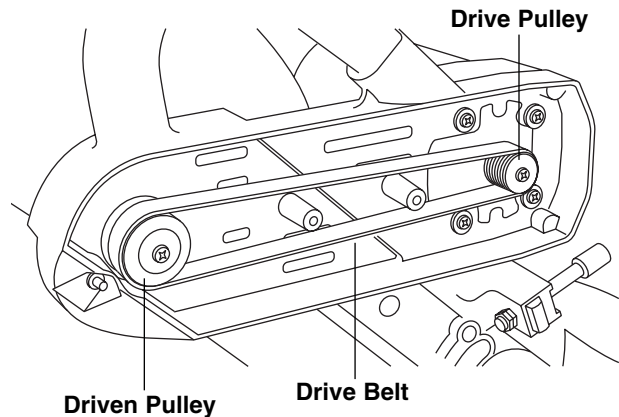

Figure 40. Belt Changes
3. Cut and remove the worn drive belt (Figure 40). Before installing the new drive belt, clean both pulleys thoroughly.